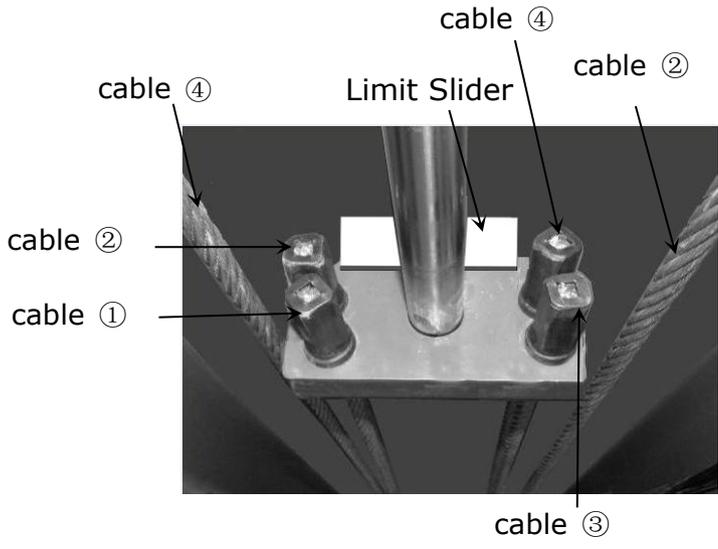
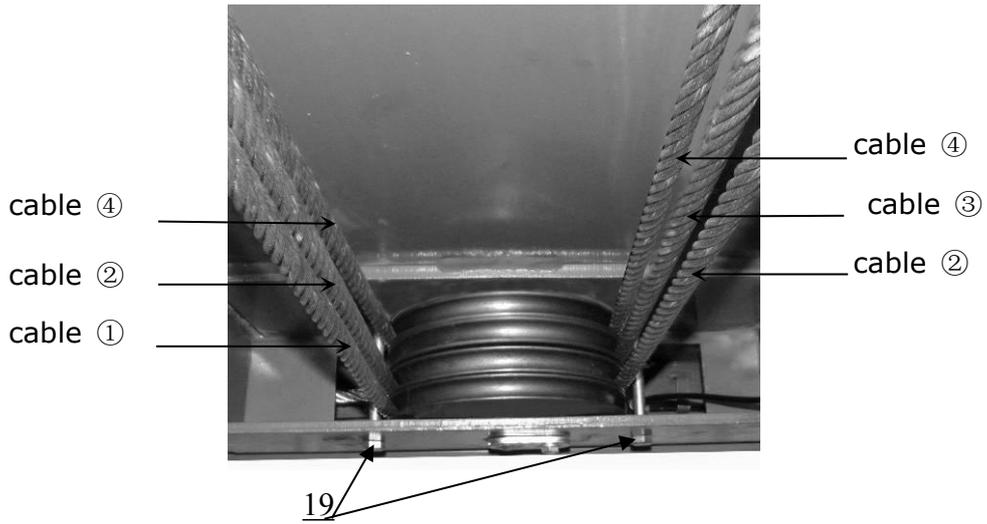

Fig.27
Fig.28
3. Illustration for platform cables (See Fig. 27, Fig.28, Fig.29)